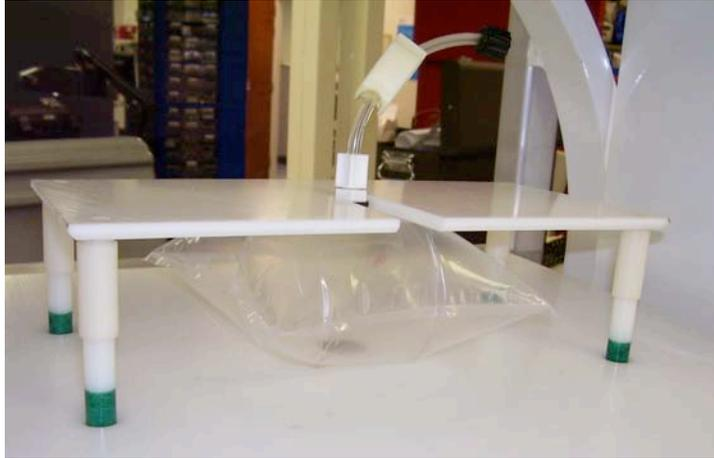

Figure 3: Dose delivery bag filled with between 0.9 and 1.1 liters of gas
5. If green color bands appear on all four corner posts simultaneously (and red color bands are not visible, see **Figure 3**), then there is a >95% probability that the dose bag is filled with a volume of gas between 0.9 and 1.1 liters.